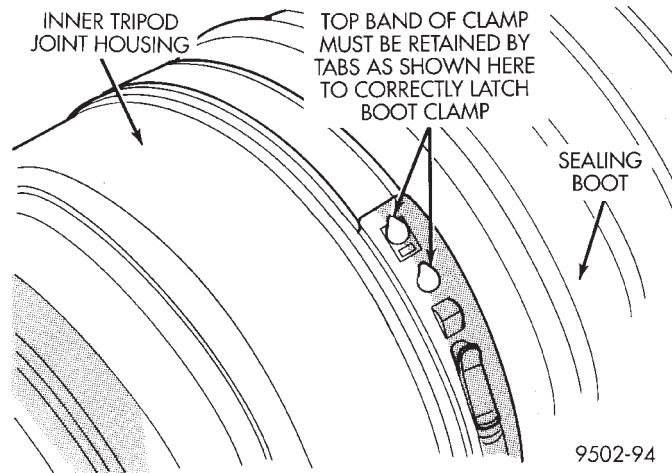

Fig. 40 Sealing Boot Clamp Correctly Installed
- Squeeze tool together until top band of clamp is latched behind the two tabs on lower band of clamp (Fig. 40).